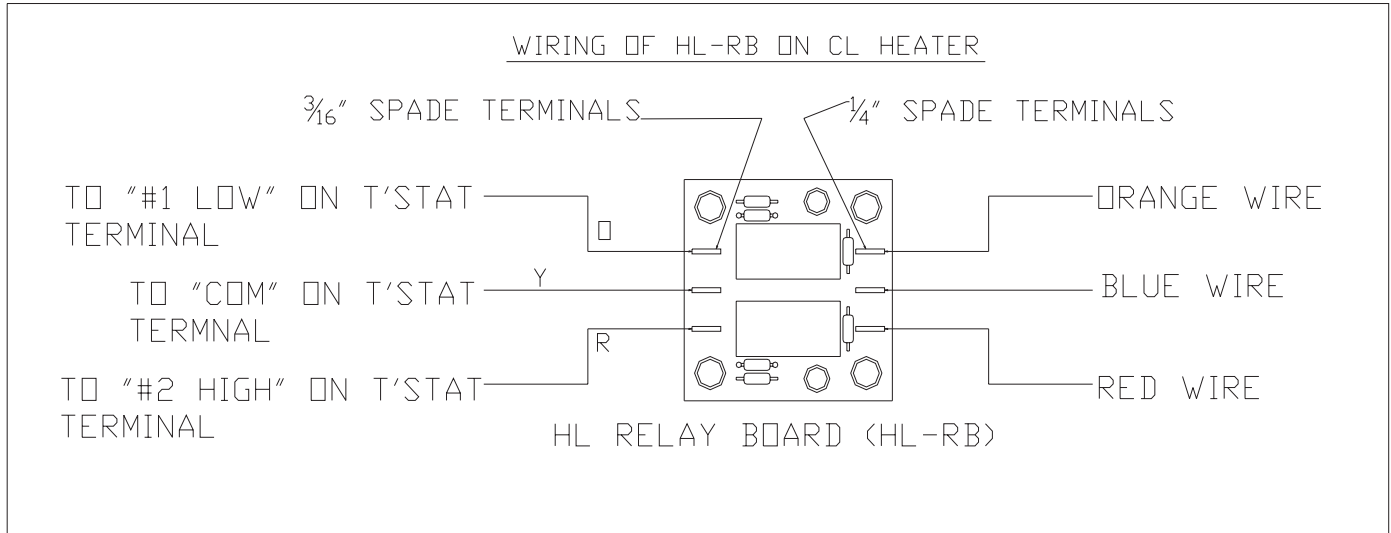
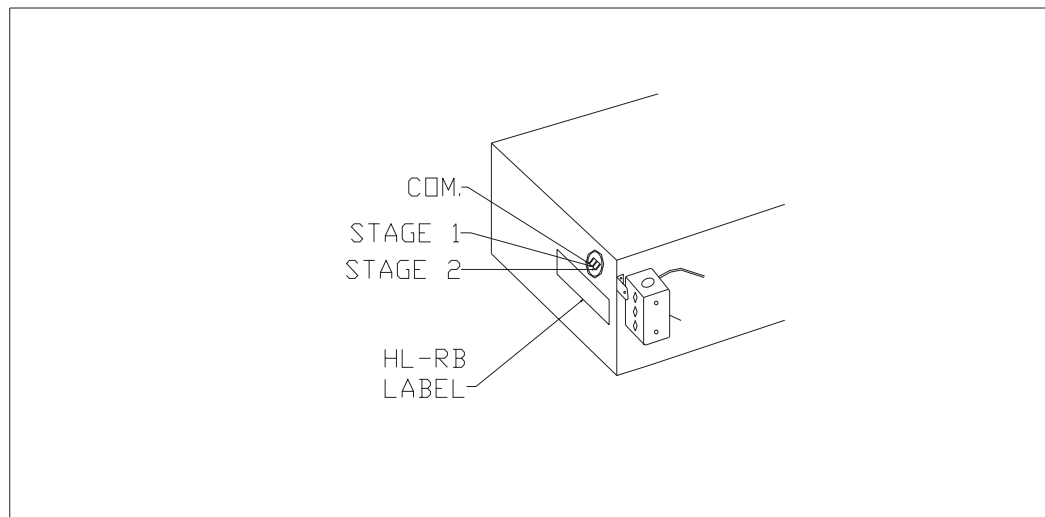

Figure 2.15.1
Figure 2.15.2
The Burner box contains a 24 volt transformer that operates the control circuits. When more than one heater is operated with a single thermostat, the 24 volt control circuit of each heater must be isolated. A factory supplied isolation relay HL-RB must be installed. See Figure 2.15.1 for internal wiring. Heaters with factory installed relay boards are labeled "Equipped with HL-RB". See Figure 2.15.2. The thermostat is not part of the burner control circuit, therefore an external (installer-supplied) 24 volt transformer will be required to operate all HL-RB's. Each HL-RB draws .03 amps. All heaters equipped with the HL-RB will use three wires to operate the relays:
- Connect Line 24 volt from installer supplied transformer to thermostat terminal (R).
- See Figure 2.15.2.